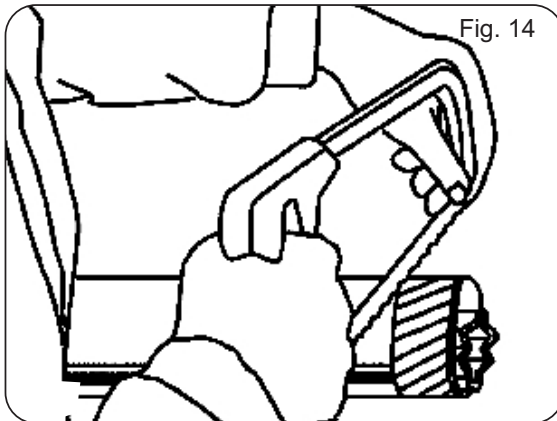

Fig. 14
- Shorten the sliding tubes by the same extent (Fig. 14 and 15), deburr and trim, then grease the inside of the outer tube.